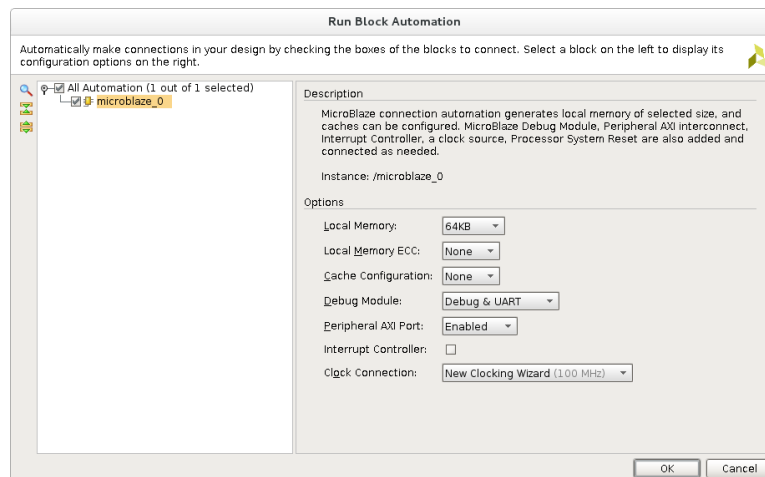

Figure 3: Run Block Automation
- (e) The Block Design Diagram opened (tab called Diagram) is empty. Right click within the diagram tab and select 'Add IP'. Search 'MicroBlaze' and double click on 'MicroBlaze' to add it to our design. Right click and select 'Run Block Automation'. Select the following configuration for the MicroBlaze processor and click 'OK'. (Figure 3)